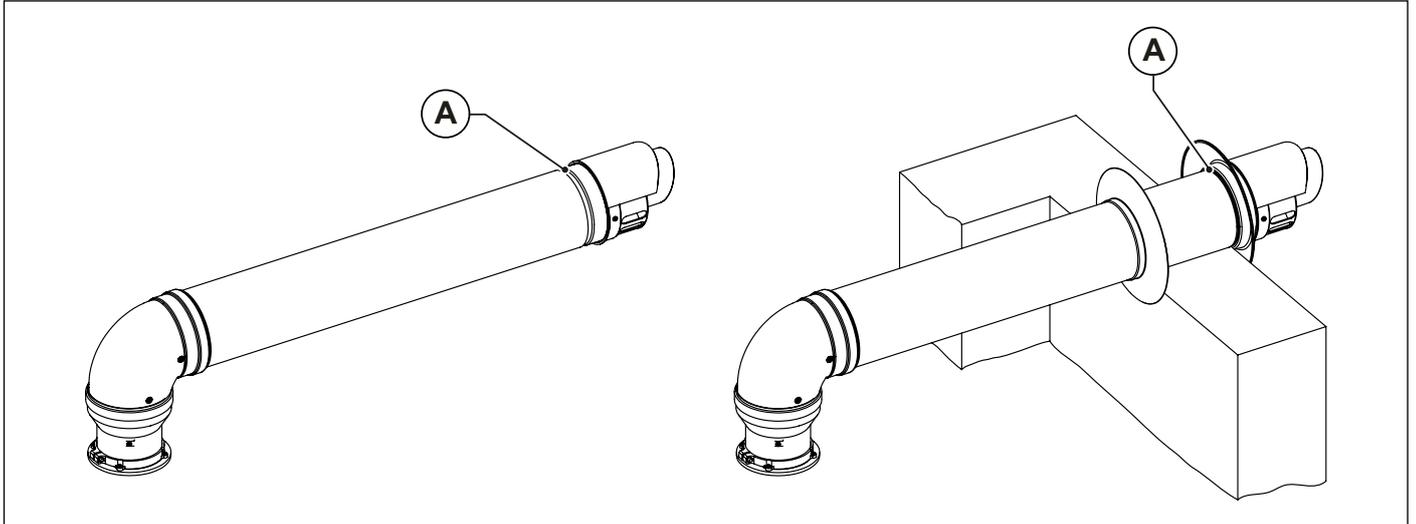

Fig. 15 Wall-mounted terminal installation
The final parts of air intake and flue gas venting terminals, both split and coaxial, feature a groove (A) to fix the external collar (see Fig. 15 Wall-mounted terminal installation).